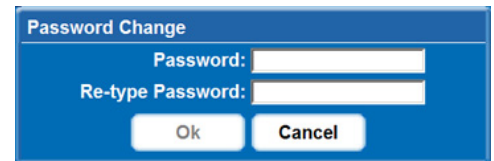

FIGURE 4-12 PASSWORD CHANGE WINDOW
1. Select the user whose password you wish to change from the **Users** window. See Figure 4-12.